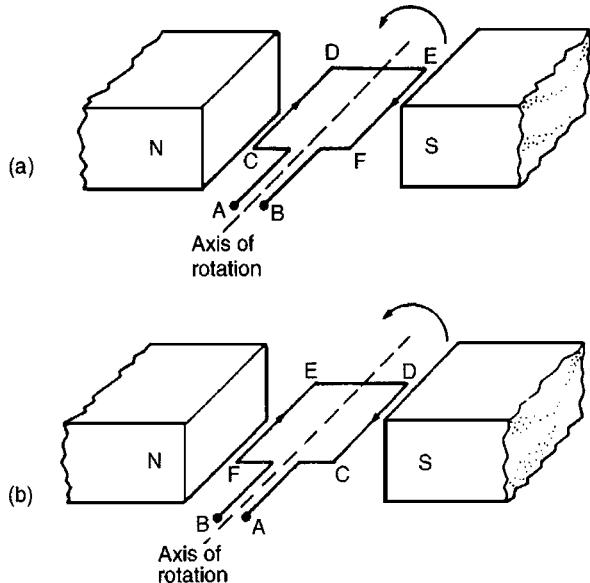
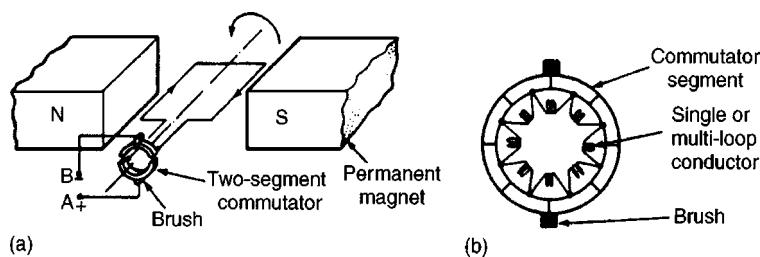

Figure 22.1
Figure 22.2
In an electric motor, conductors rotate in a uniform magnetic field. A single-loop conductor mounted between permanent magnets is shown in Fig. 22.1. A voltage is applied at points A and B in Fig. 22.1(a)
to the current flowing from E to F (from Fleming's left hand rule). If the loop is free to rotate, then when it has rotated through 180°, the conductors are as shown in Fig. 22.1(b) For rotation to continue in the same direction, it is necessary for the current flow to be as shown in Fig. 22.1(b), i.e. from D to C and from F to E. This apparent reversal in the direction of current flow is achieved by a process called **commutation**. With reference to Fig. 22.2(a), when a direct voltage is applied at A and B, then as the single-loop conductor rotates, current flow will always be away from the commutator for the part of the conductor adjacent to the N-pole and towards the commutator for the part of the conductor adjacent to the S-pole. Thus the forces act to give continuous rotation in an anti-clockwise direction. The arrangement shown in Fig. 22.2(a) is called a 'two-segment' commutator and the voltage is applied to the rotating segments by stationary **brushes**, (usually carbon blocks), which slide on the commutator material, (usually copper), when rotation takes place.
In practice, there are many conductors on the rotating part of a d.c. machine and these are attached to many commutator segments. A schematic diagram of a multi-segment commutator is shown in Fig. 22.2(b).
- (iii) **field windings**, i.e. many turns of a conductor wound round the pole core; current passing through this conductor creates an electromagnet, (rather than the permanent magnets shown in Figs. 22.1 and 22.2),